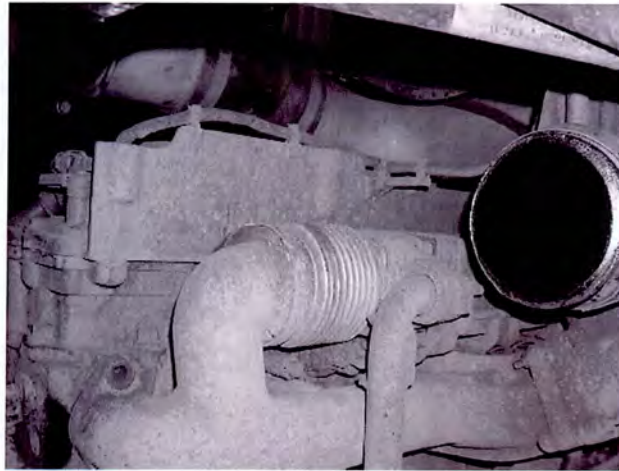

Figure 2
3. Remove the existing exhaust heat blanket, primary pipe and related components including the support brackets and the rear exhaust manifold bolts. Place the exhaust manifold bolts and heat blanket aside for reinstallation (see Figure 2 showing all parts removed).